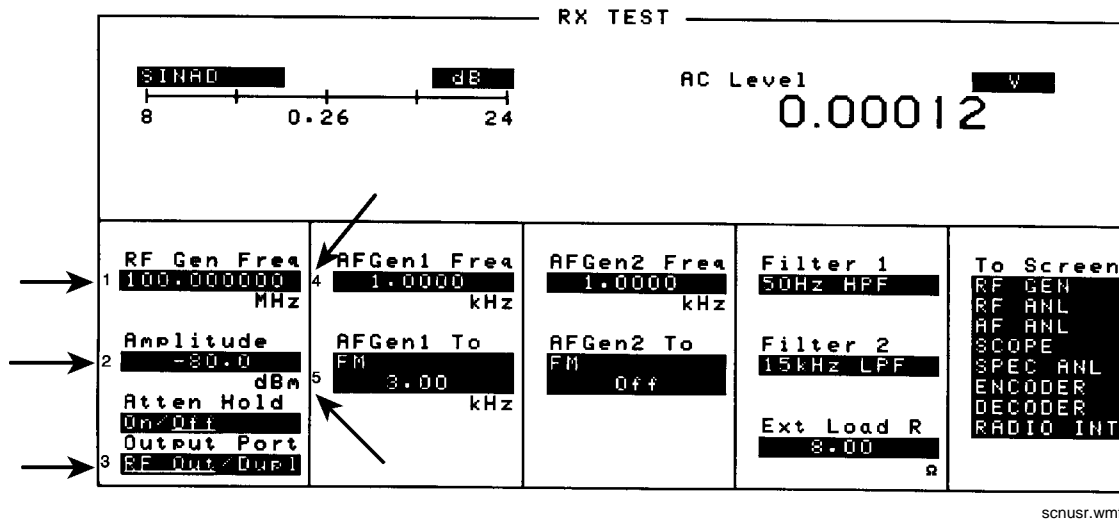

Figure 12 An Example of Pre-Assigned Local User Keys
1. Press and release the SHIFT key, then the k4 key to access the ASSIGN function; then press the ENTER key. The numbers 1 through 5 appear in front of various fields. (See figure 12.)